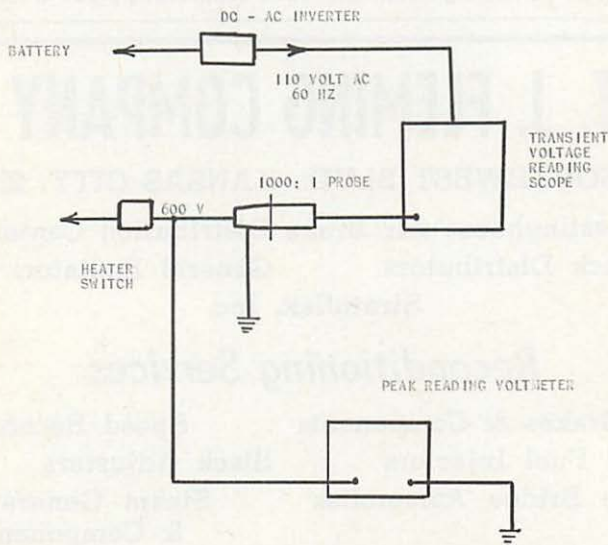

FIGURE 6 — Schematic Diagram for Measuring Control Voltage Transients.
13. INSTRUMENTAL CIRCUIT FOR RECORDING CONTROL VOLTAGE TRANSIENTS: Instruments used on this test are shown in the circuit of Figure 6. Instruments used are: